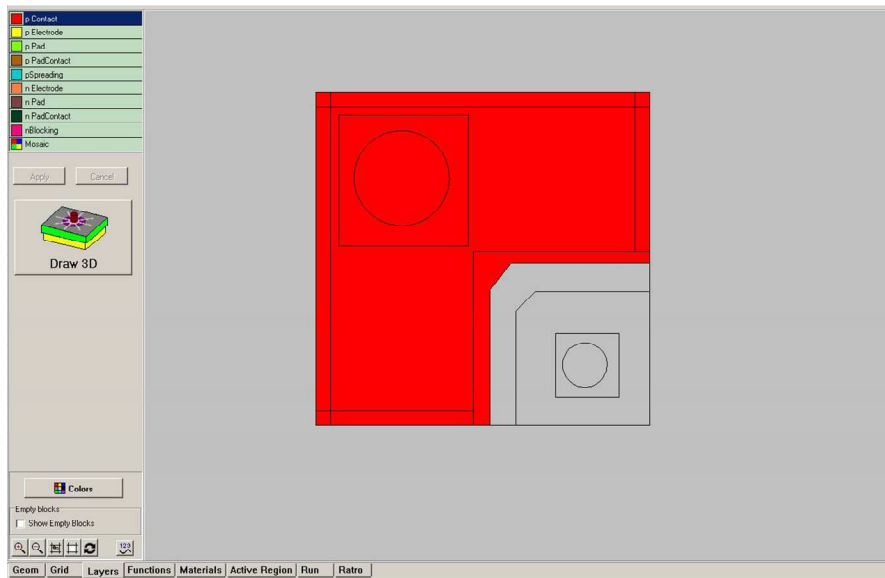

Fig. 19
**p-semiconductor.** Surface of the p-semiconductor layer (see Fig. 19). The whole die contour area lying beyond the p-semiconductor is assumed to represent the mesa etched in the die. The area of the n-semiconductor layer is assumed to match the external contour drawn by the user. So it is assigned automatically and should not be explicitly specified.